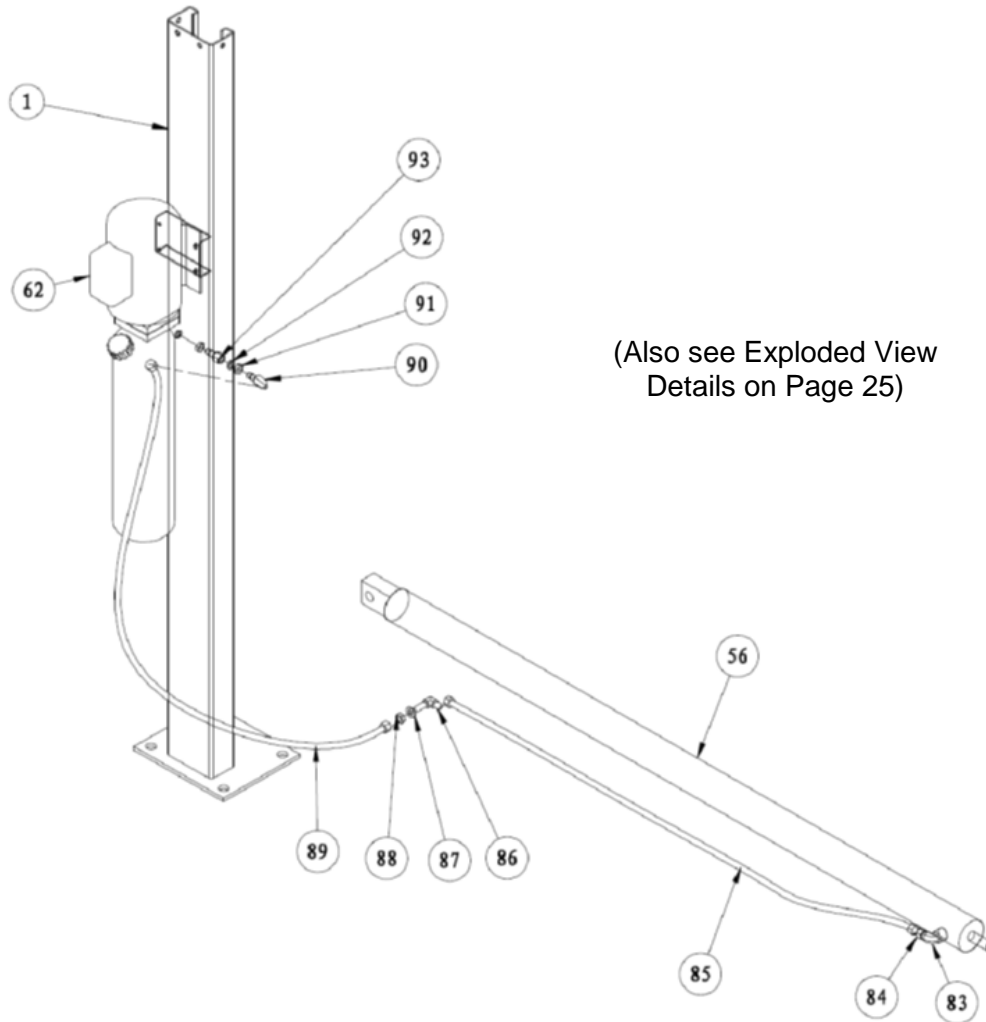

Fig. 10
22. Install the 90 degree Hydraulic Fitting, Nuts & Washer (# 90, 91, 92 & 93) to the high pressure port on the Power Unit, shown in Figure 10. Connect the 115VAC electrical power to the Power Unit.
23. Install the “wire braided” Hydraulic Hose (#89) to the Fitting on the side of the Main side Runway and attach the other end to the 90 degree Fitting on the Power Unit, as shown in Fig.10.